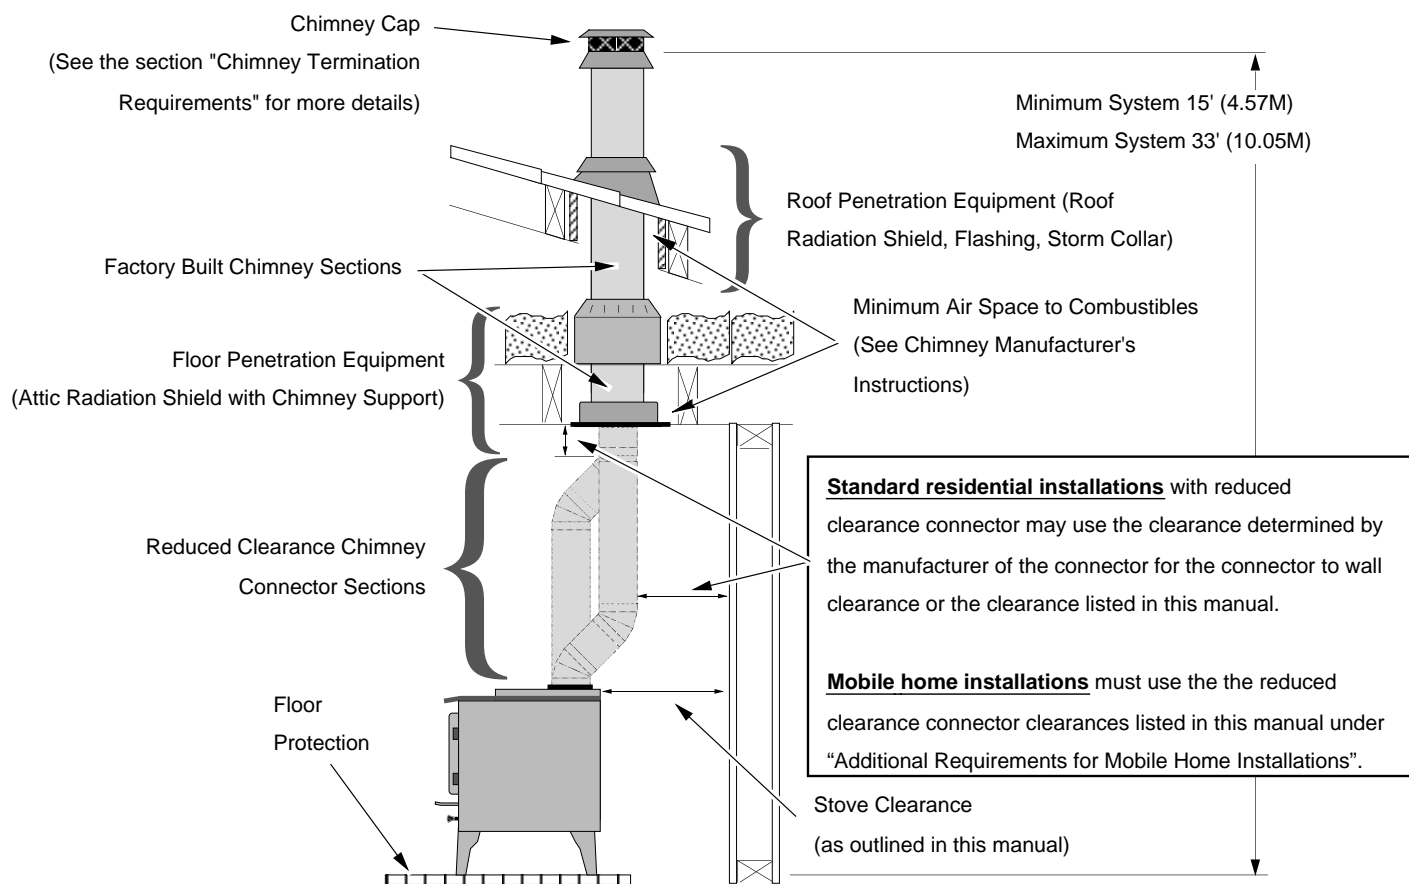

Figure 5
- Chimney connector is required from the flue collar of the stove to the factory-built chimney (see Figure 5) or masonry chimney (see Figures 13, 14, and 15).